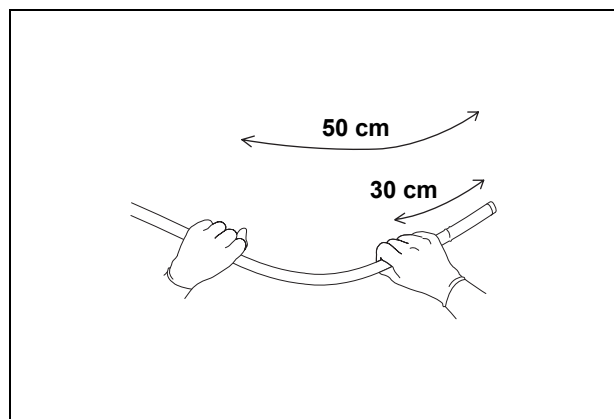

Figure 3.5
3. Set the insertion tube to the most-flexible and most-rigid conditions, respectively. In each case, hold the marks of 30 and 50 cm of the insertion tube with two hands, and bend it gently as shown in Figure 3.5. Confirm that the actual flexibility changes according to the flexibility adjustment setting.